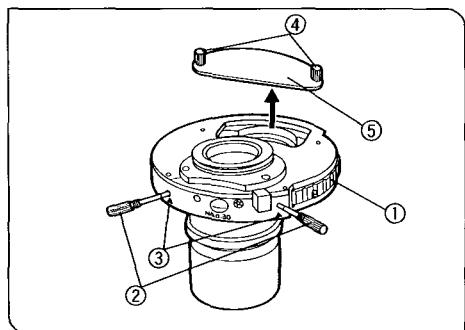
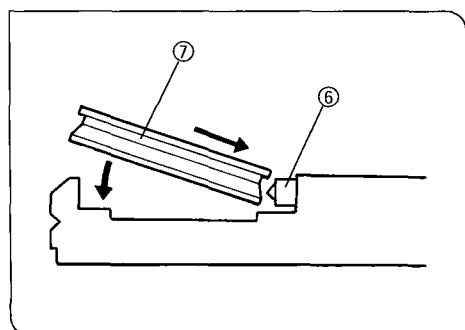

Fig. 27
Fig. 28
(Figs. 27, 28)
1. Rotate the turret ① to the Ph1/PhC index position. (Fig. 27)
2. Put the turret insert centering wrenches ② into the designated insert centering holes indicated by the ▲ symbols ③. Turn the wrenches counterclockwise to loosen.
4. Loosen the two clamping screws ④ and remove the cover ⑤.
5. While depressing the spring ⑥ on the inward side of the turret aperture with the side of the phase contrast ring slit mount (IX-PH1U or IX-PHCU ⑦), insert the phase contrast ring slit completely until it sits firmly on the bottom of the turret aperture. (Fig. 28)